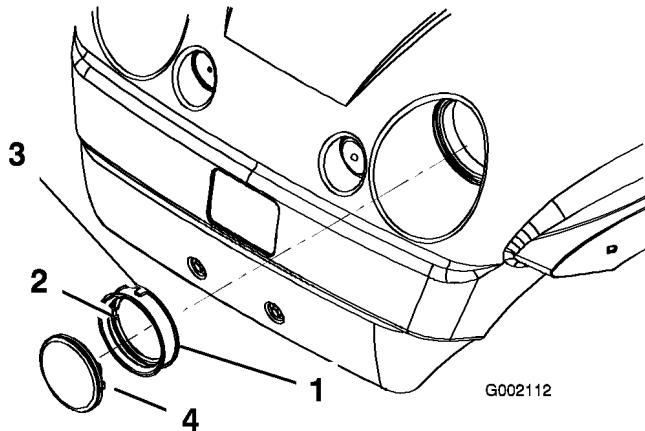

Figure 25
4. Remove the rubber seal from around the headlight (Figure 25). Discard the headlight.
5. Align the notch on the inside of the seal with the notch on the new headlight (Figure 25). Slide the seal onto the headlight until the seal is firmly in place.